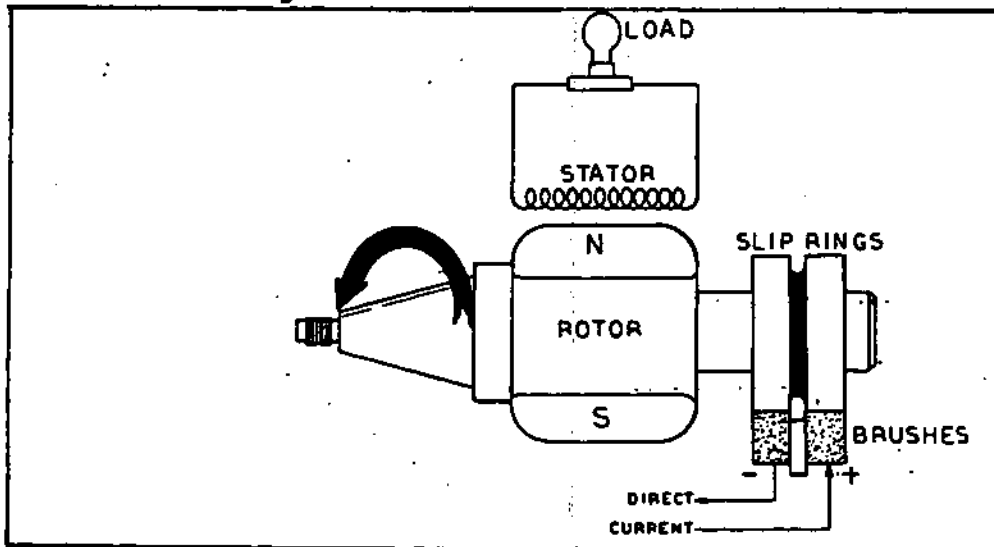

Figure 2.2-A. A Simple Revolving Field AC Generator
2.2.2- ELECTROMAGNETIC INDUCTION (Figure 2.2-A)
See Figure 2.2-A. As the ROTOR rotates, its lines of magnetic flux cut through the stationary STATOR windings, to induce a voltage into those windings that is proportional to the strength of the magnetic field. Conversely, current flow through a wire or coil of wires will create a magnetic field around that wire or coil. The strength or concentration of the created magnetic field is proportional to the amount of current flowing through the wire or coil. The following statement may then be made:-